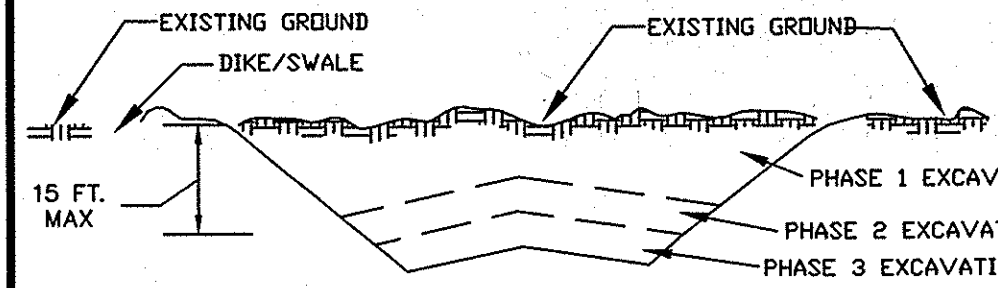

FIGURE B.1 INCREMENTAL STABILIZATION - CUT
2. Construction sequence example (Refer to Figure B.1):